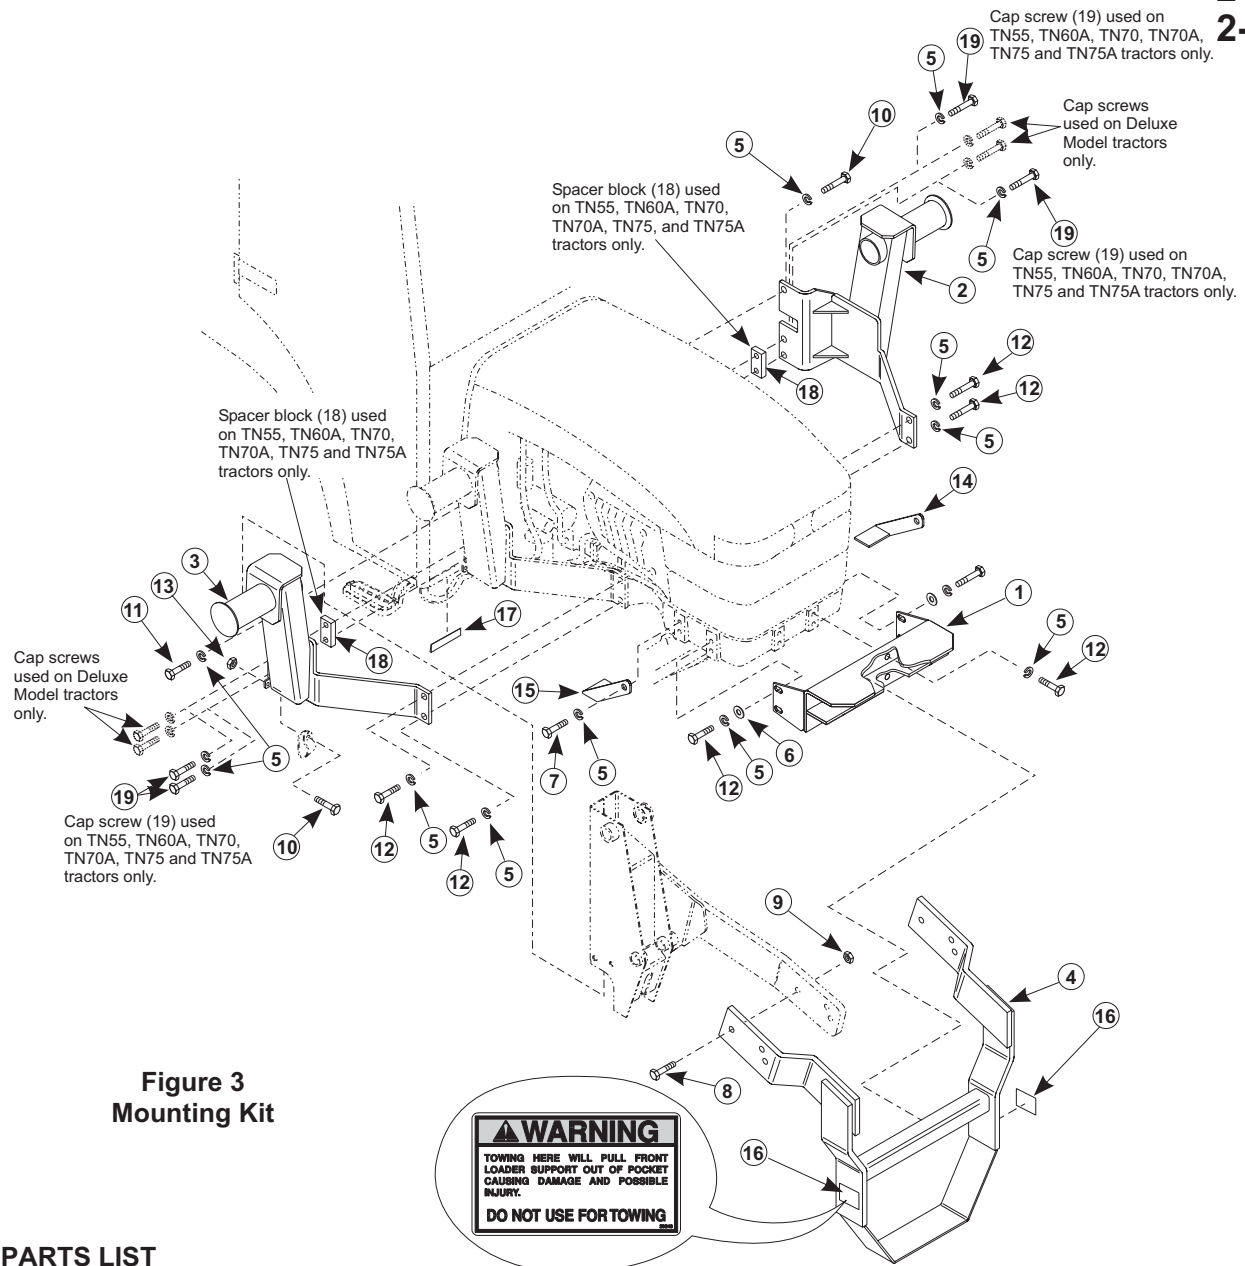

Figure 3
INSTALLING MOUNTING BRACKETS (Figure 3)
10. Secure air-conditioner hoses with hose clamp (which was removed from cab support channel) to right mid mount assembly (3) with 3/8 x 1 cap screw (10) and 3/8 lock nut (13). Refer to Inset in Figure 3.
11. Install 6" plastic trim (17) on edge of cab to protect loader hoses.